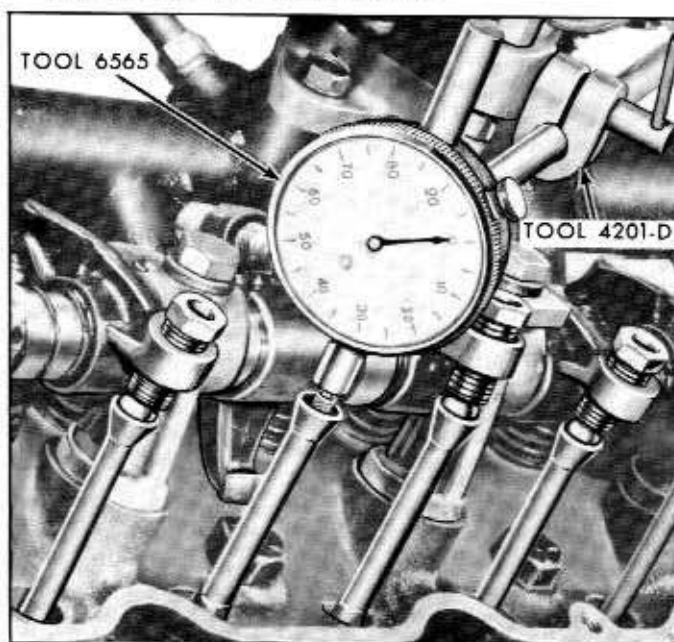

Fig. 6A-11—Camshaft Lobe Lift—Typical—(60C-5610)
- Install a quadrant on the crankshaft pulley. Back off the number 1 intake valve adjusting screw, then slide the rocker arm to one side and secure it in this position. Make sure the push rod is in the tappet socket, then install a dial indicator in such a manner as to have the actuating point of the indicator in the push rod socket and in the same plane as the push rod movement. See figure 6A-11.